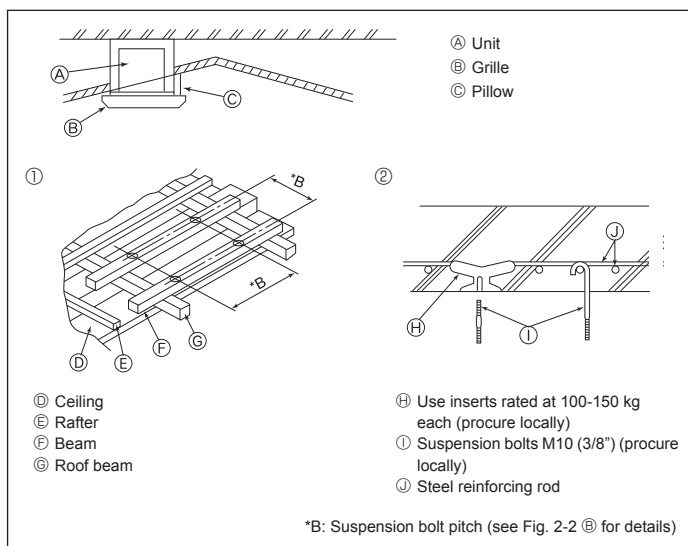

Fig. 2-4
2.4. Suspension structure (Give site of suspension strong structure) (Fig. 2-4)
- ① Wooden structures
- ② Ferro-concrete structures